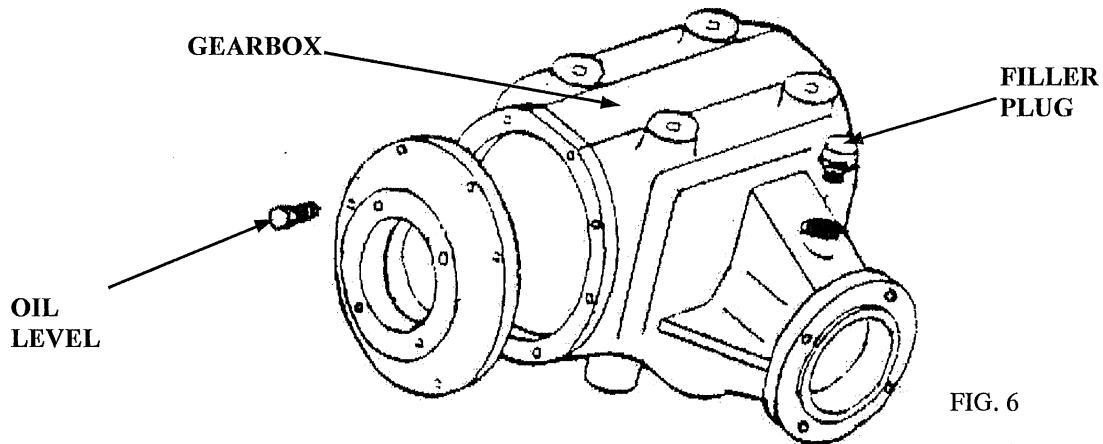

FIG. 6
- Check gearbox correct operating oil level. To proceed, remove filler and oil level plug (fig. 6). Add oil through the filler plug until it starts running out of the oil level plug (pour slowly to make sure that the lower portion of the gearbox housing has been filled). Screw the filler and oil level plugs back in their corresponding places.